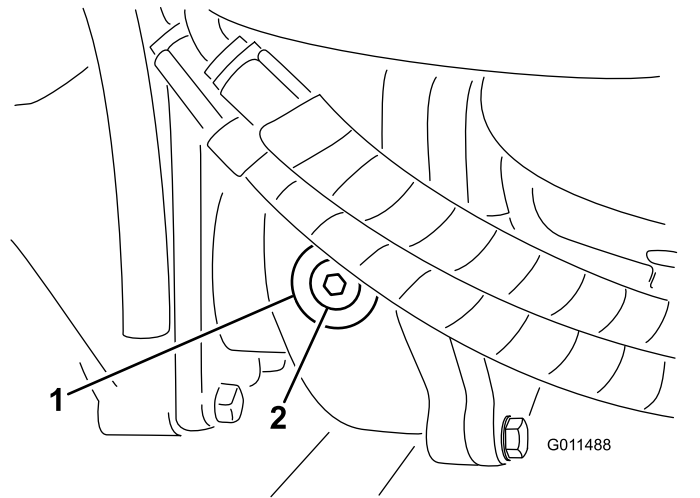

Figure 71
2. Remove the check/fill plug from the left side of the gear box (Figure 71) and make sure that lubricant is up to the bottom of the hole. If the level is low, add enough lubricant to bring the level up to the bottom of the hole.